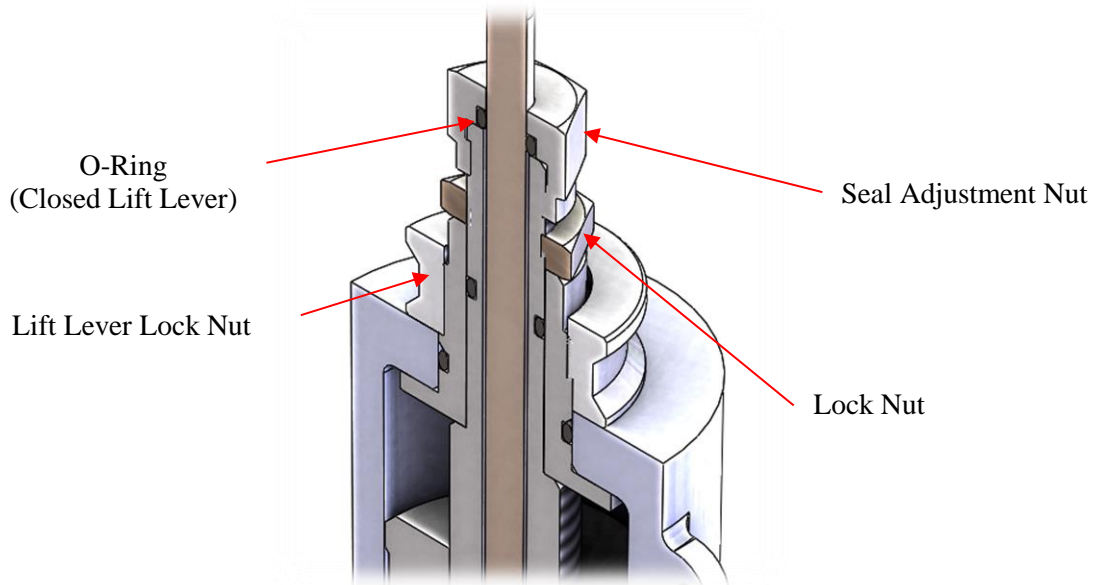

Figure 19: Removed Lift Lever Cap
6. Unscrew and remove the seal adjustment nut. See Figure 19.